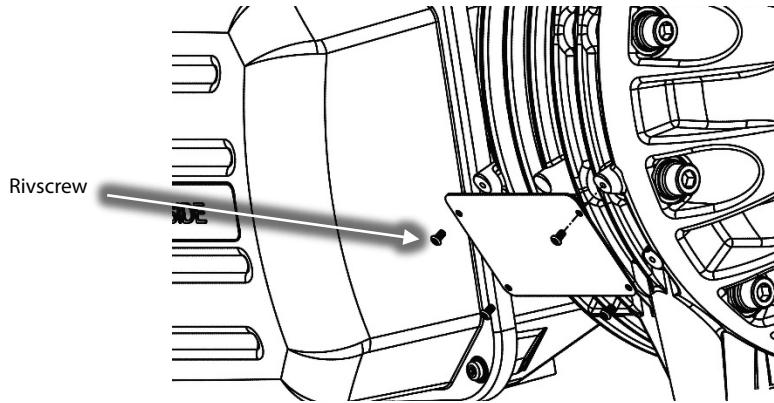

Figure 34 – Compressor Nameplate
4. Place the Mains Input Cover and secure it with the M5x15 fasteners. Tighten according to Figure 34 (Mains Input Cover Torque Sequence).